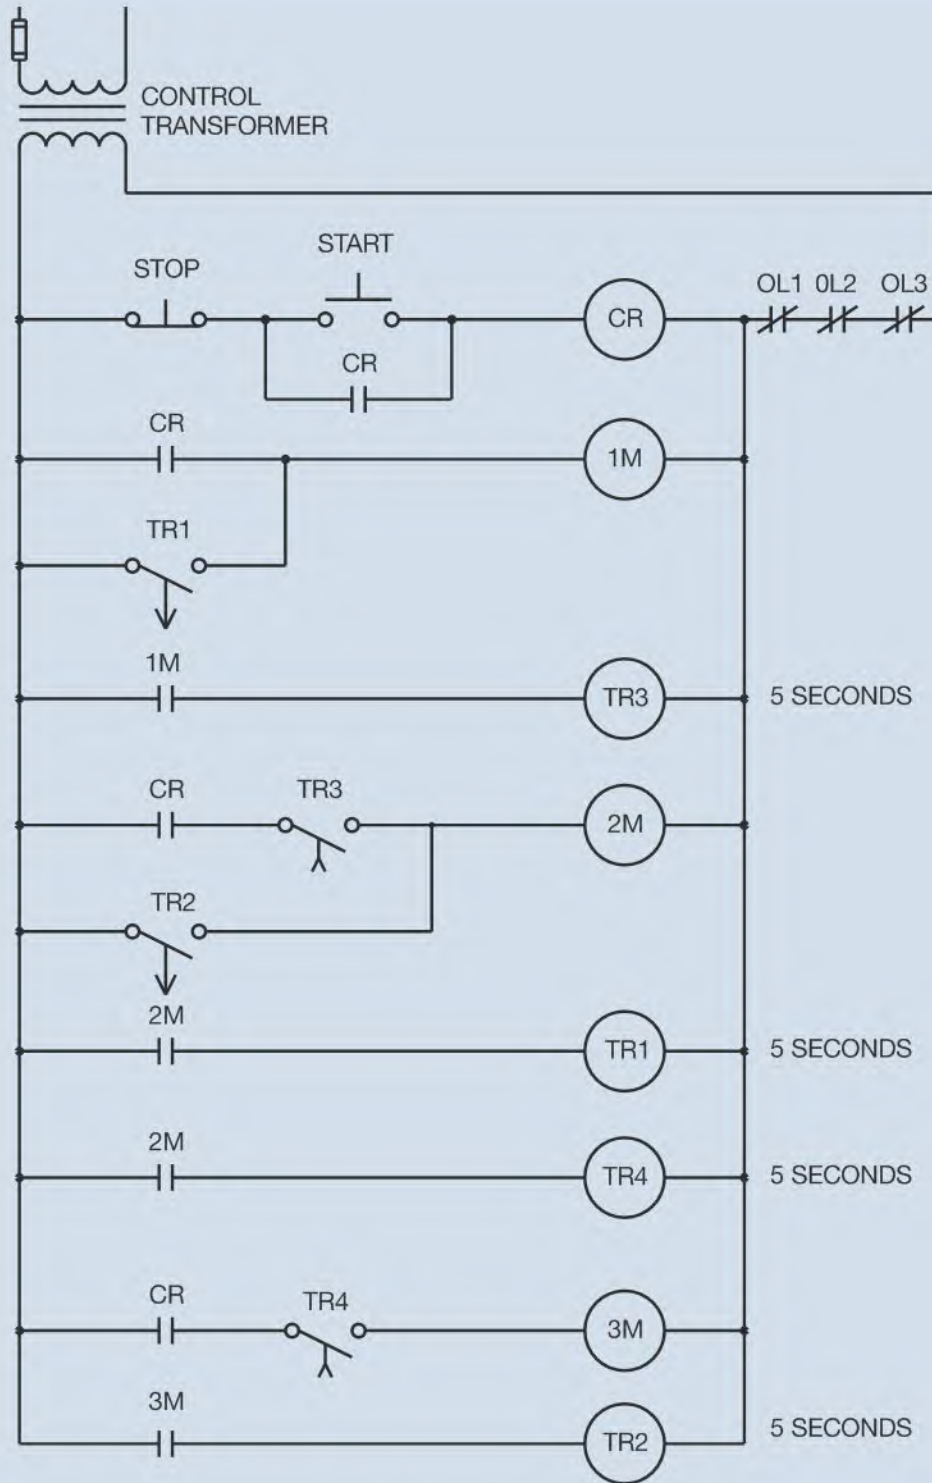

Figure 12–13 Motors start and stop in sequence with a time delay between starting and stopping.
2. Refer to the schematic diagram in Figure 12–14. Assume that the 1M contact located between wire numbers 29 and 30 had been connected normally closed instead of normally open. How would this circuit operate?
3. Assume that all three motors shown in Figure 12–14 are running. Now assume that the STOP button is pressed and motors #1 and #2 stop running, but motor #3 continues to operate. Which of the following could cause this problem?